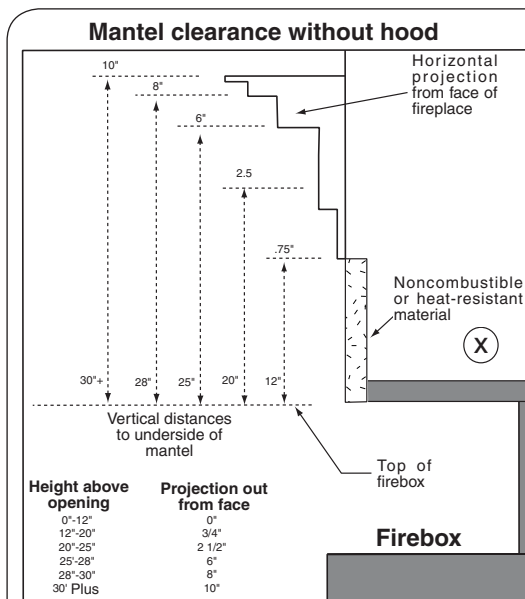
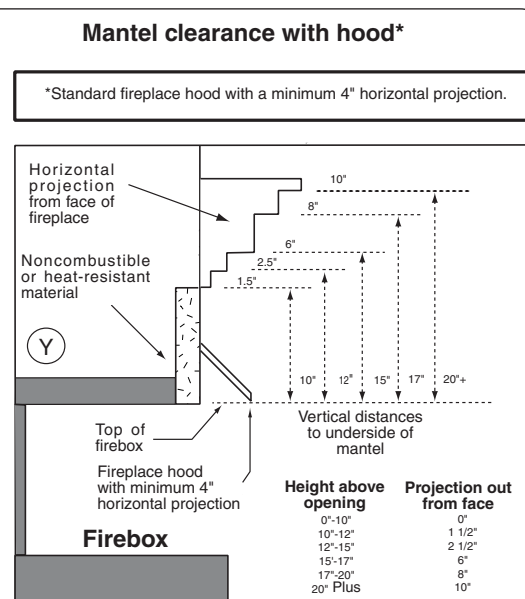

Fig. 11-2
Fig. 11-3
- Mantel: (see Figs. 11-2, 11-3, and paragraph A below)
To install the unvented gas log set, there must **ALWAYS** be noncombustible or heat-resistant material immediately above the fireplace opening. Heat-resistant materials (i.e., marble or slate) must be at least 5/8" thick. Sheet metal should not be installed onto combustible materials. If you **DO NOT** install a fireplace hood, there **MUST** be at least **12"** of noncombustible or heat-resistant material immediately above the fireplace opening (see X in Fig. 11-2 below). If you **DO** install a fireplace hood, there **MUST** be at least **10"** of noncombustible or heat-resistant material immediately above the fireplace opening (see Y in Fig. 11-3 below). If there is a wooden mantel, shelf, or other combustible projection above the fireplace, follow the information in Fig. 11-2 or Fig. 11-3 below.
1. If a fireplace hood is not installed - 2.5" (see Fig. 11-2).
2. If a fireplace hood is installed - 10" (see Fig. 11-3).